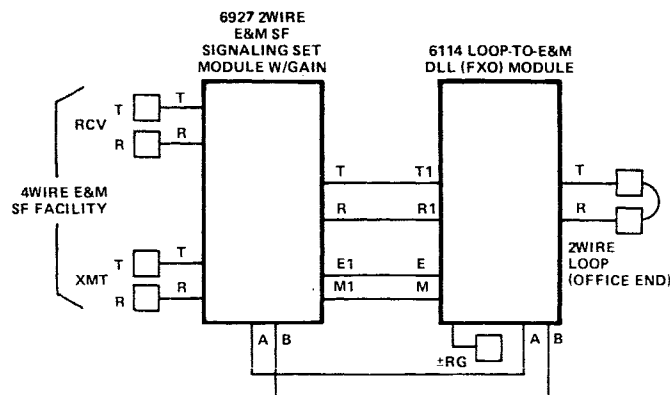

figure 4. 6114 in 4wire E&M SF-to-loop application
2.10 Other applications for the 6114, such as interfacing an E&M SF transmission facility, are possible with the addition of one or more modules. Figure 4 shows one possible 4wire E&M SF-to-loop application. Please call Tellabs Customer Service at one of the telephone numbers listed in paragraph 7.02 if additional application information is required.